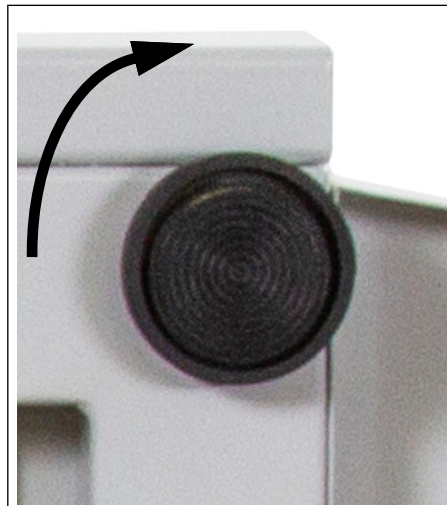

Figure 2-3. Secure Scale Platform Feet
2. Screw all of the four feet clockwise until firmly seated Figure 2-3 and then unscrew the feet counterclockwise four entire turns to ensure no mechanical binding is present.